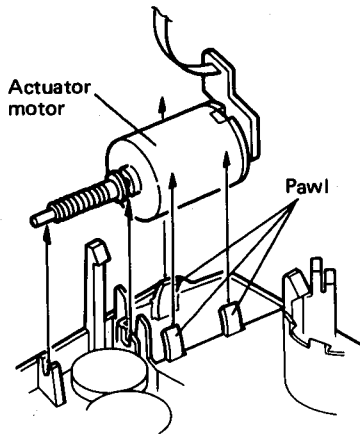
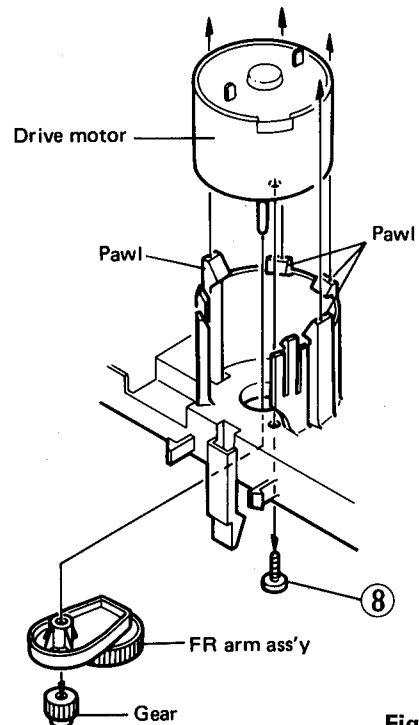

Fig. 2-15
Fig. 2-18
- **Actuator motor assembly** (Fig. 2-15)
- **Drive motor** (Fig. 2-15, Fig. 2-18)
- 2) Remove one screw ⑧ retaining the drive motor.